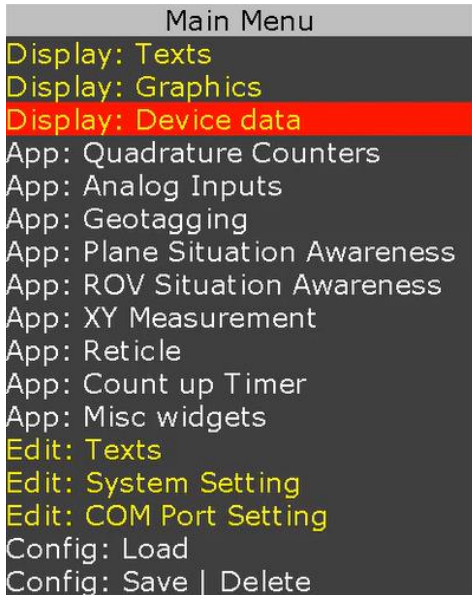
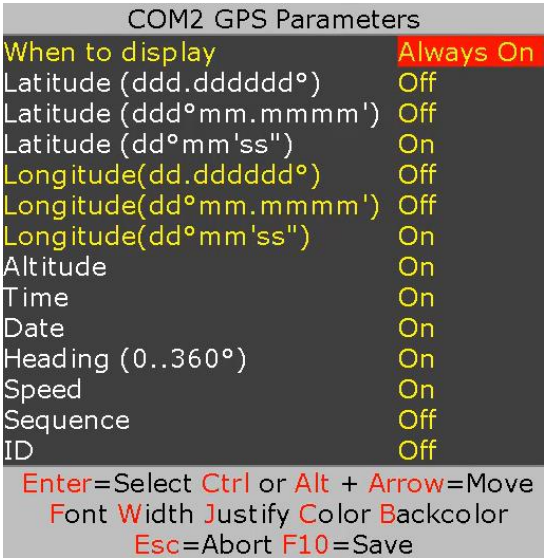
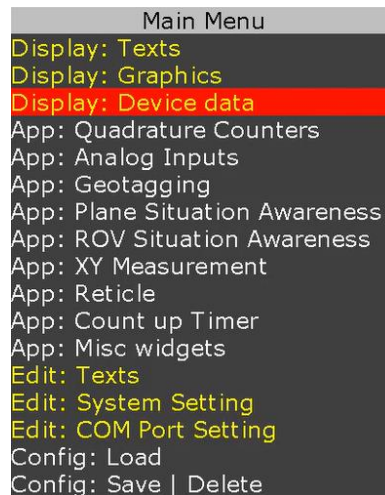
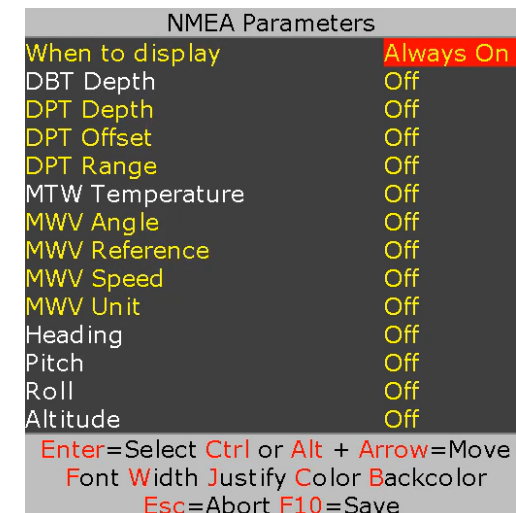

Figure 12
Figure 14
Figure 15
Figure 17
To customize the sample file to meet your needs, follow Figure 12 - Figure 14.
While in Figure 14, use ↑ to select desire GPS parameter. Press ↓ to select “On”. Use shortcuts keys to format the text as described below:
- For above messages, just configure COM\\_port and PROTEUS is ready to receive messages & manage your visual data. Follow Figure 15-Figure 17 and Figure 12 - Figure 14 to display NMEA parameters.